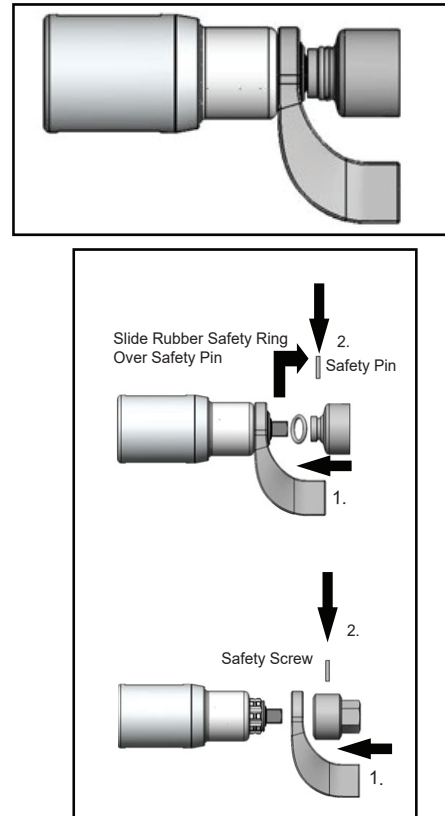

Figure 3: Impact Socket Installation
- Make sure the reaction arm (1) is correctly attached and secured to the splined section of the torque wrench. Tighten the grub screw.
- Install the impact socket to the tool square drive with a safety pin (2) and secure with a o-ring. Refer to Figure 3 for details.